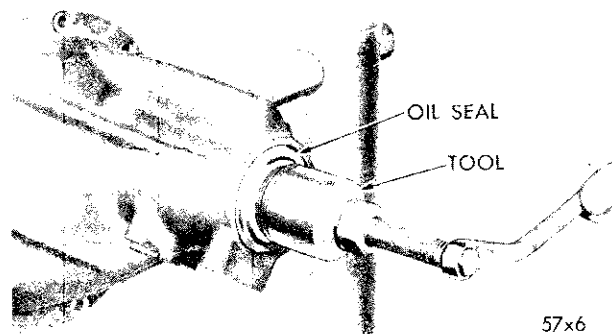

Fig. 10—Removing Pinion Bearing Oil Seal
- (5) Install oil seal puller Tool C-748 by screwing it securely into the pinion oil seal (Fig. 10) and tighten puller screw to remove the seal.
- (6) While holding one hand over the companion flange end of carrier, invert the carrier in the stand. The oil slinger, front bearing cone